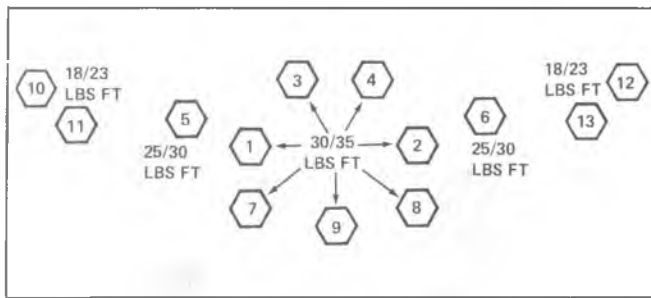

Fig. 6A1-9--Cylinder Head To Exhaust Manifold Tightening Sequence
3. Torque all manifold to cylinder head bolts in sequence to torques shown in figure 6A1-9.